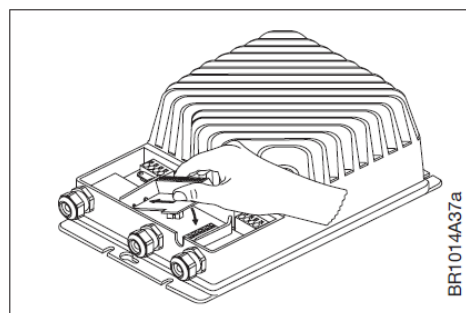

Fig. 9-2
- See figs 9-2, 9-5 and 9-6 for details of mechanical installation in NI-DV sizes 4.0 kW...15.0 kW. The 3-point holder is located on the left-hand side when looking at the mounting bay from the top (see fig. 9-2).